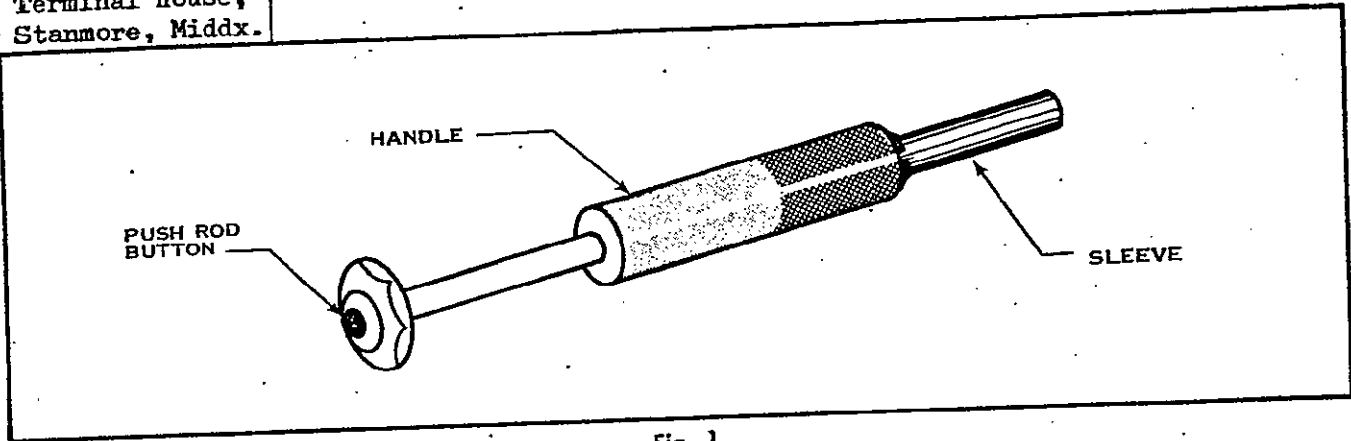

Fig. 1
1. The Tools (see Figure 1) covered by this instruction sheet are used to extract the Contacts listed in Figure 2.